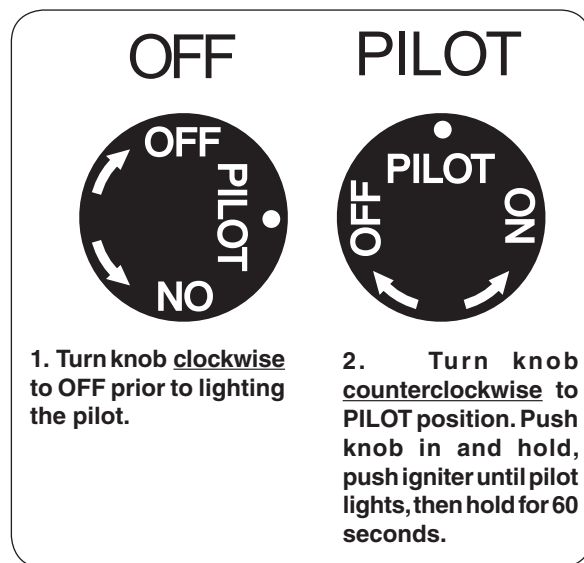

Fig. 19-1 Control knob detail (OFF, PILOT)
1. Locate the valve on the side of the unit. Push in the gas control knob slightly and turn clockwise to **OFF** (Fig. 19-1).
2. Turn the control knob counterclockwise to **PILOT** (Fig. 19-1). Push the control knob **firmly and fully** in and hold. Push the piezo igniter button several times until the pilot lights. Continue to hold the control knob in for approximately 60 seconds after the pilot is lit, then release the knob. The pilot will remain lit.